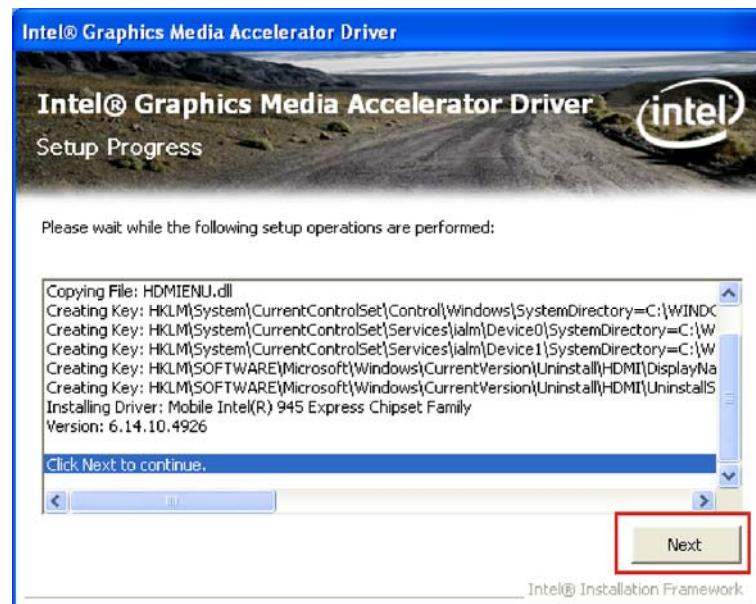

Figure 7-14: VGA Driver Setup Operations
**Step 13: Setup Operations** are performed as shown in **Figure 7-14**.